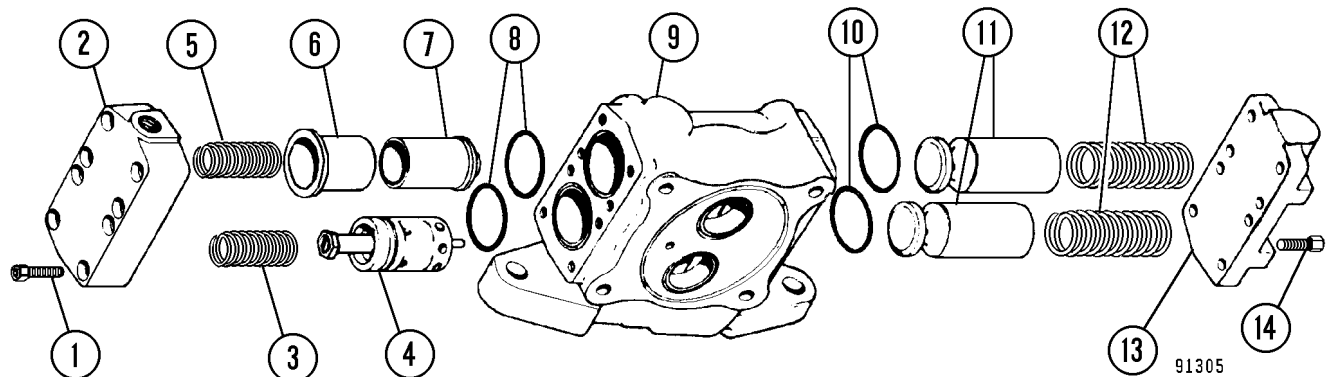

FIGURE 8-5. INLET SECTION DISASSEMBLY
2. Disconnect the external tube at the cover end and remove. Remove capscrews (14, Figure 8-5), and cover (13). Remove springs (12), poppets (11) and O-rings (10).